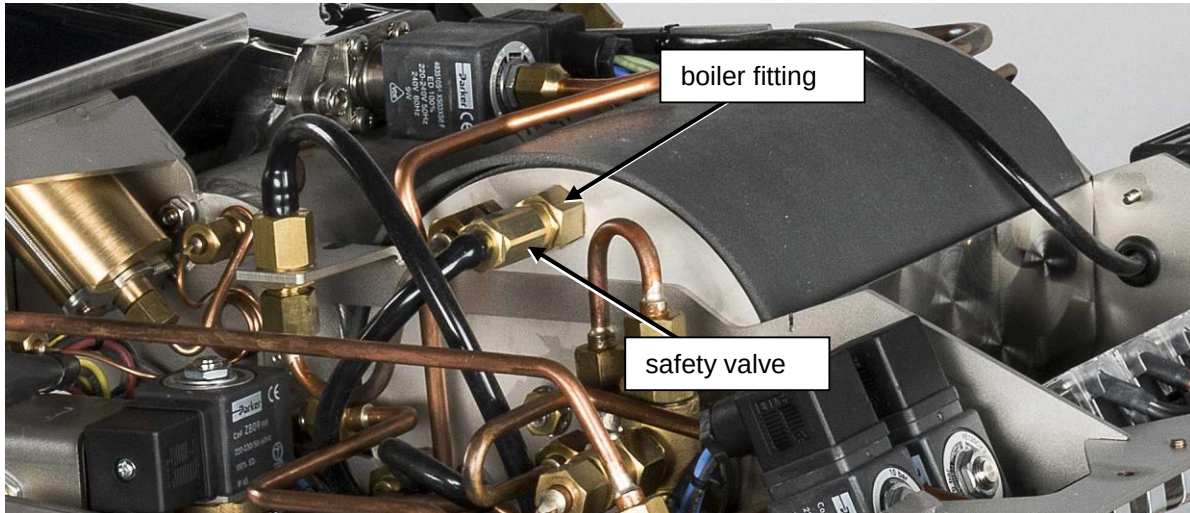

Figure M 7. showing the safety valve and boiler fitting.
2. Pull black silicone drain hose from safety valve (see Figure M 7).